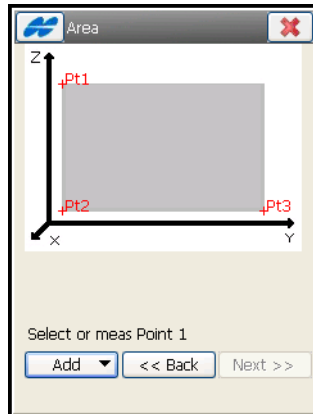

Figure 8-74. Select Area
2. Select the Scanning Area on the *Area* screen (Figure 8-74 on page 8-68). The starting and ending points for the scanning area can be selected from the Point List or Map, or measured (Figure 8-74). When finished, click **Next**.